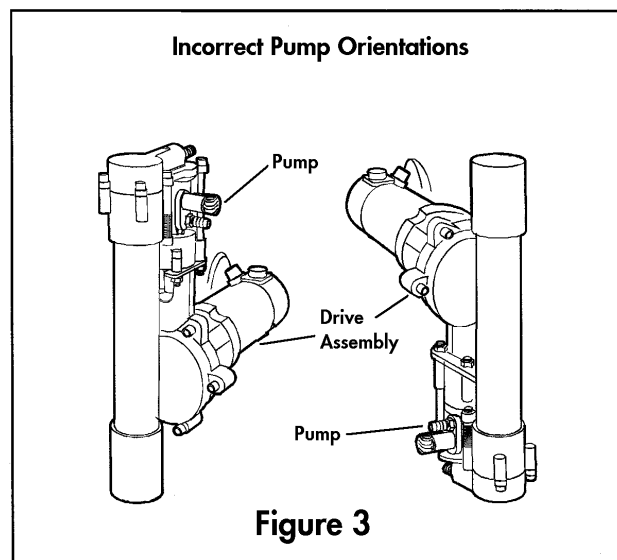

Figure 3
- If the pump develops a seawater leak and is located directly above the drive assembly, the drive assembly and/or electric motor may be damaged (**Figure 3, left**).
- If the drive assembly develops an oil leak and is located directly above the pump, oil may find its way into the pumping system and damage the membrane (**Figure 3, right**).